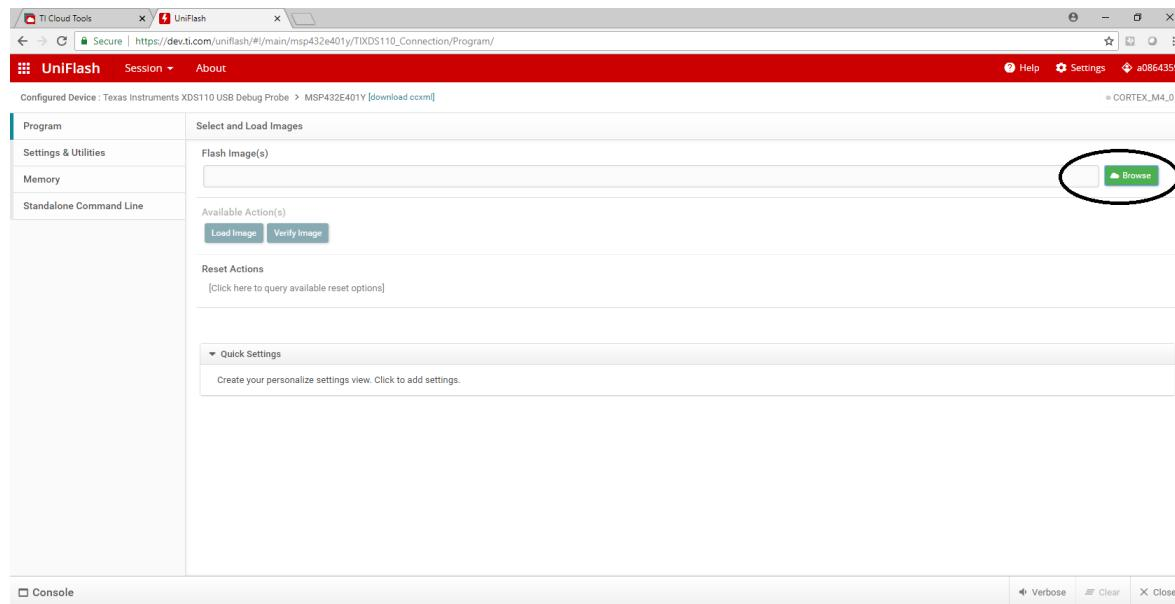

Figure 9. UniFlash: Browse to Firmware
3. From the *Program* tab, *Browse* to the *Flash Image* to be installed, as shown in Figure 9. The flash binary file is found under the *Program Files (x86)\Texas Instruments\ADS1219\firmware* folder.